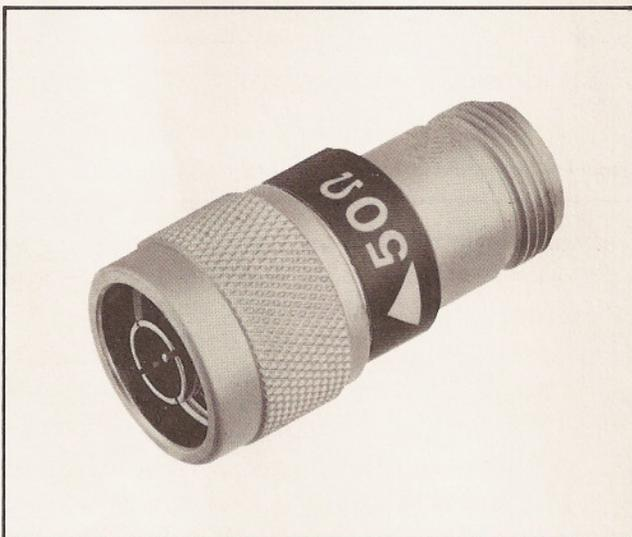

Figure 1. Mechanical Adapter (8483A Only)
18. The Model 8483A is supplied with an adapter (HP 1250-0597, shown in Figure 1) for joining the Power Sensor's 75-ohm Type N connector to the 50-ohm power reference connector on the power meter. This accessory is a mechanical adapter only, not an impedance transformer. Therefore, an impedance mismatch exists and the meter should be calibrated to 96% of the power reference level at 50 ohms (e.g., 0.96 mW for the HP Model 435 series).